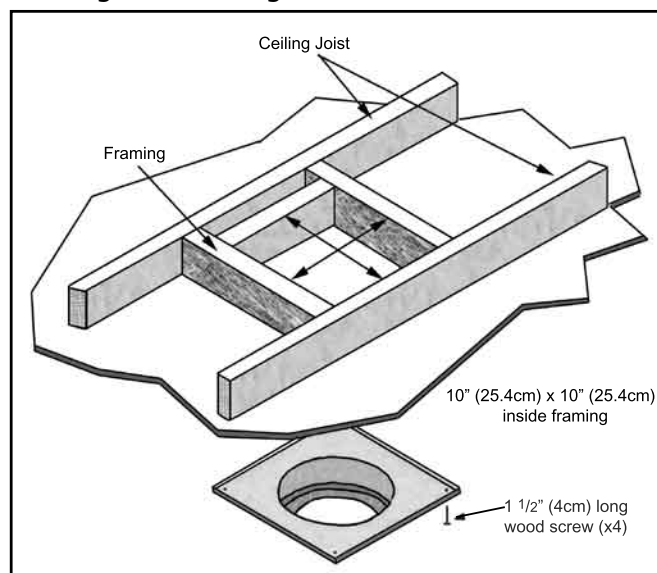
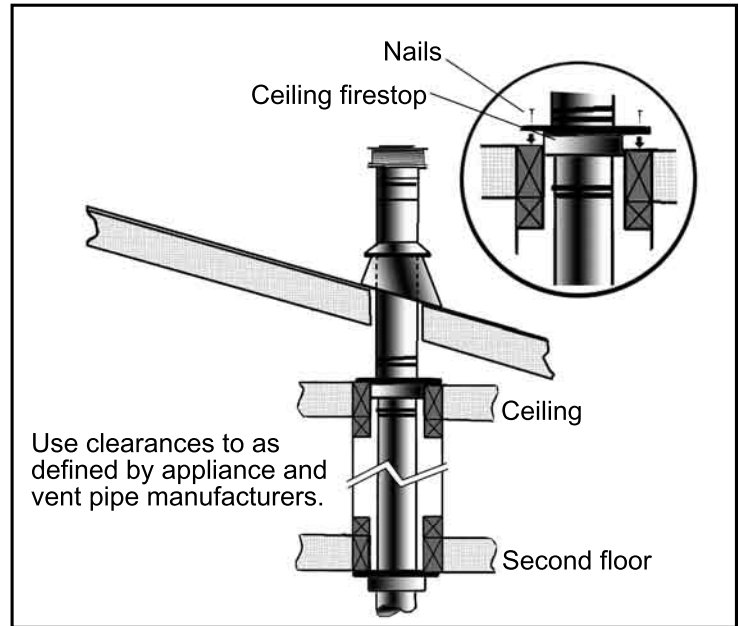

Figure 23: Wall Framing for Hole for Vertical Installation.
Figure 27: Multi-Story Vent Pipe Installation.
- STEP 3.** To install the Round Support Box/Wall Thimble in a flat ceiling, cut a 10" square hole in the ceiling, centered in the hole drilled in Step 2. Frame the hole as shown in Figure 23.
- (1) For multi story installations. A ceiling firestop is required at the second floor, and any subsequent floors (see Figure 27). The opening should be framed to 10" (25.4 cm) x 10" (25.4 cm) inside dimensions, in the same manner as shown in Figure 23.